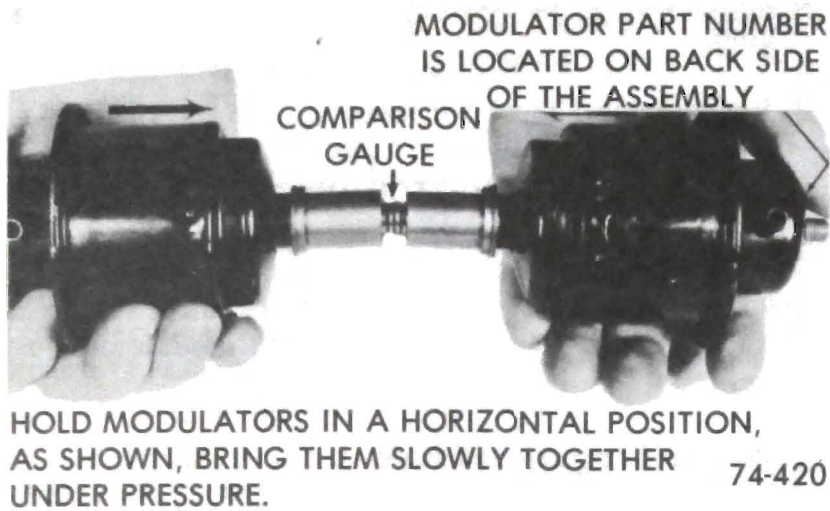
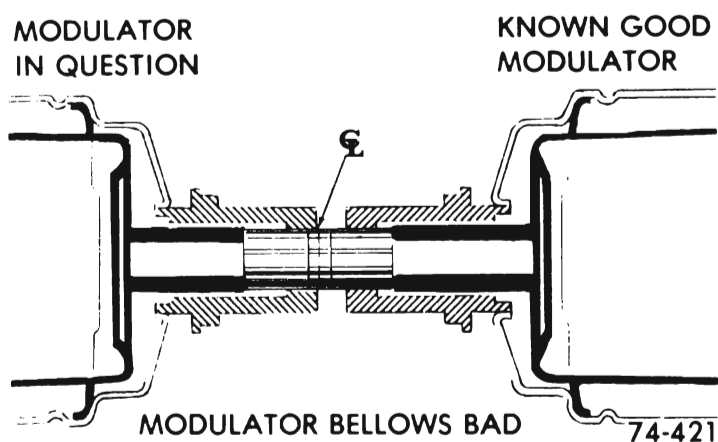

Figure 76-2 - Holding Modulators in Horizontal Position
Figure 76-3 - Modulator Bellows (Bad)
- b. Holding the modulators in a horizontal position, see Figure 76-2, bring them slowly together under pressure. The modulator bellows in question, if defective, will reach the center line of the comparison gage before the known good modulator lines up with the outer gage line. See Figure 76-3.